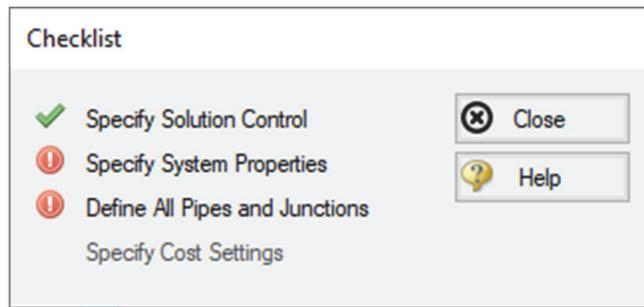

Figure 2.6 The Checklist window tracks the defined and undefined model input
The Workspace window is the initial active (large) window, as seen in Figure 2.6. The five tabs in the AFT Arrow window represent the five
- Next, click the checkmark on the Toolbar at the top of the AFT Arrow window. This opens the Checklist window (see Figure 2.6). The Checklist window (also simply called the Checklist) contains four or more items depending on which modules and features you may be using. Each item needs to be completed before AFT Arrow allows you to run the Solver.